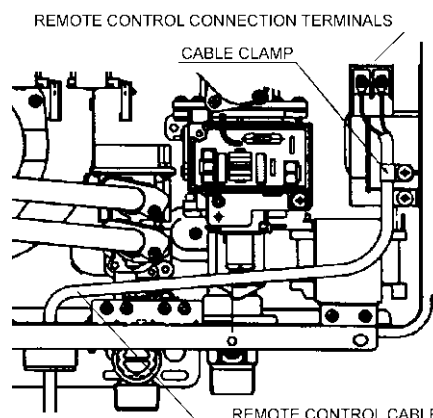

fig.2
9. Thread the 3 cables through the cable access hole at the base of the appliance. Connect the 4 spade connectors to the terminals marked "Remote Control" on the printed circuit board (fig.2). Polarity is not important. Either wire colour can be connected to either terminal.